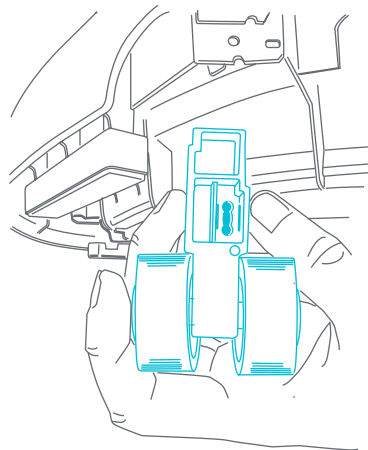

Fig. 14b
- Release the wheel from the housing (Fig. 14b). Repeat for the other sides.